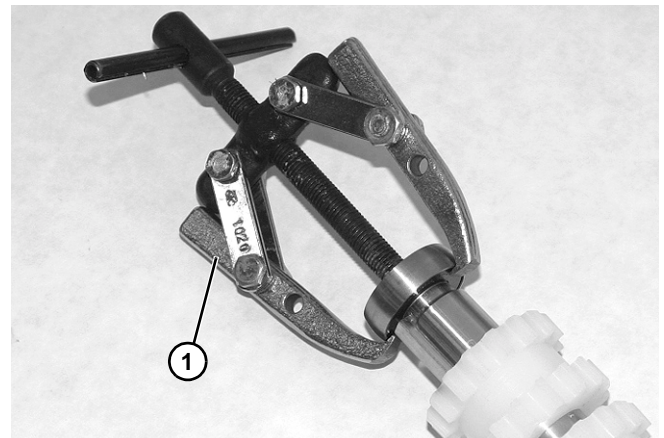

Figure 40
3. Use bearing removal tool (807-1078) (Figure 40, item 1) to remove bearings from drive pulley.